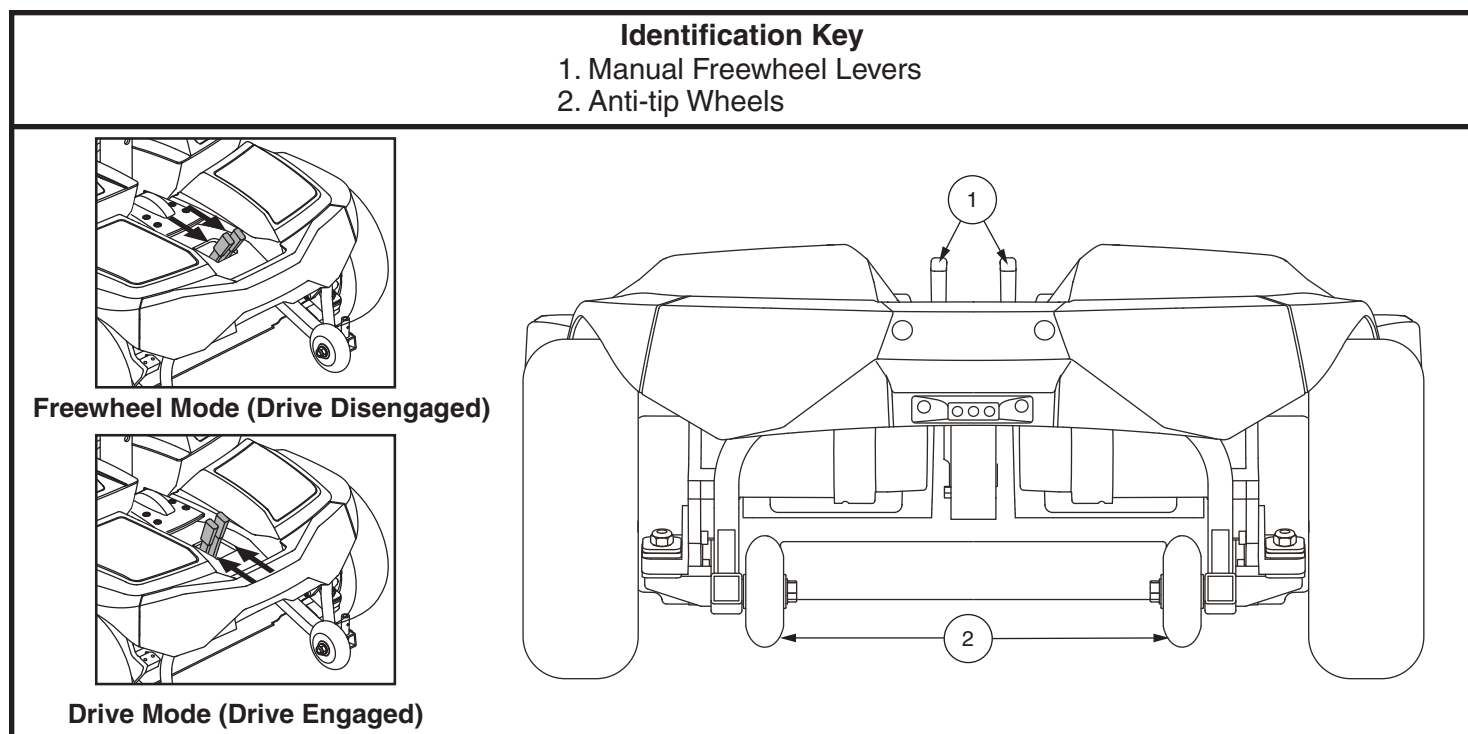

Figure 5. Back of Power Base
1. Locate the levers on the rear section of the power base. **See figure 5.**
The anti-tip wheels are an integral and important safety feature of your Go Chair. They are bolted to the frame at the rear of the chair. **See figure 5.**
2. Ensure the travel chair is in drive mode. **See figure 5.**